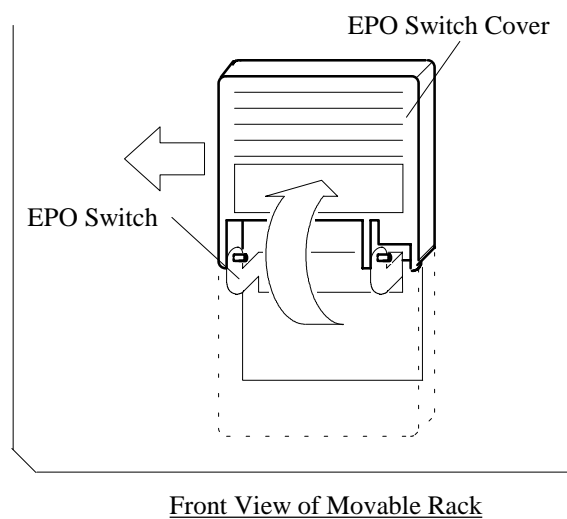

Fig. T1-3 Removal of EPO Switch Cover
- b. Attach the EPO Switch cover. Refer to Fig. T1-3.